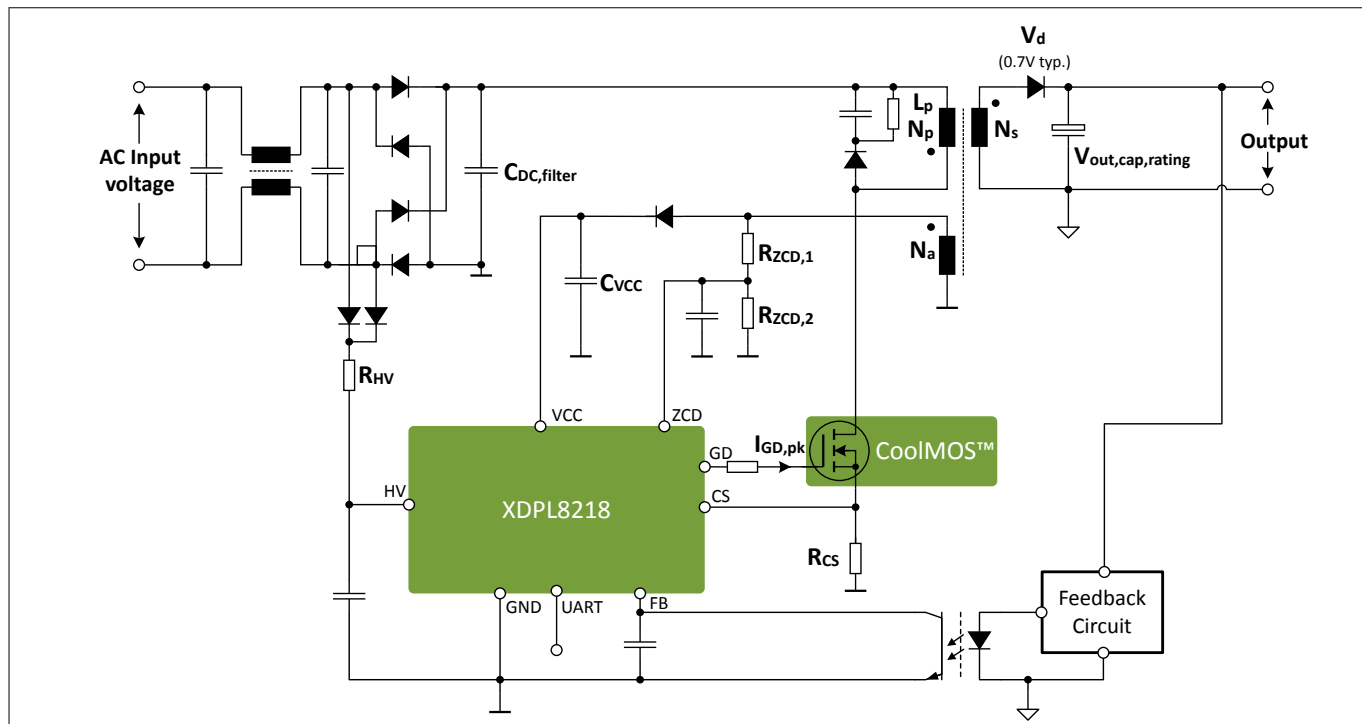

Figure 1 Typical Application for XDPL8218
*Note: The **SSR CV** output in **Figure 1** should not be used to directly drive the LEDs. For LED lighting application, it should be converted to constant current output by a second-stage DC-DC switching or linear regulator.*